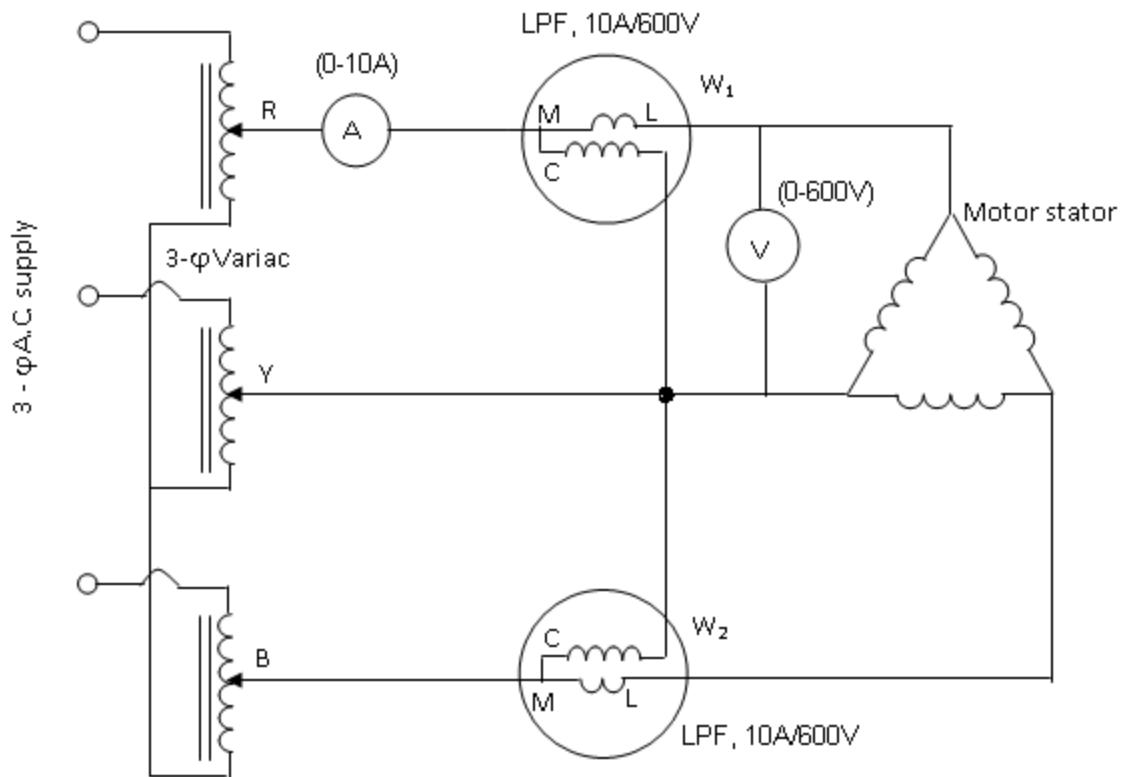

FIG.5.1A. Connections for No-Load Test
2. Draw the circuit diagram as shown in Fig.5.1A for no-load test and 5.1B for blocked-Rotor test showing the proper ranges of the meters according to specification of the machine for both no-load and blocked rotor test and get it approved by lab instructor.